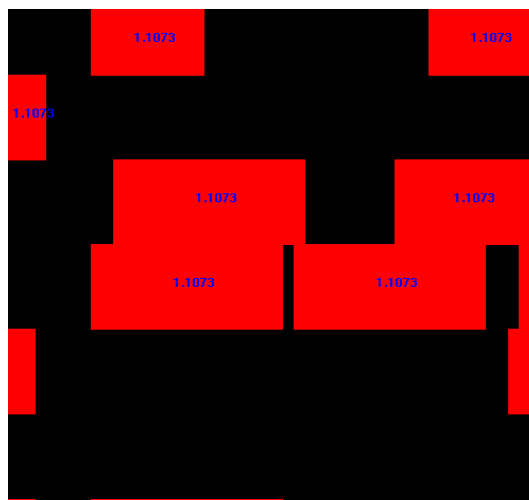

Figure 4-11 View individual instance IR drop values with **View > Set Color Map> Layers Color Map**
2. Zoom in so that individual instance voltages can be seen, as shown in Figure 4-11.